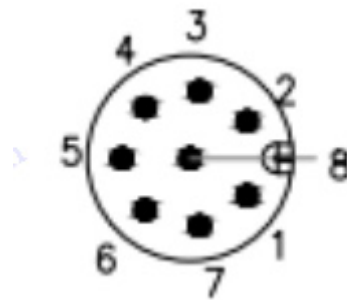

Figure 2 Schematic diagram of SMART antenna data interfaces
1. Connect the SMART antenna configuration cable to the SMART antenna. Figure 2 shows the SMART antenna data interfaces, and Table 2 describes the data interfaces.
HX-TS122 has two RS232 serial ports, namely, COM1 and COM2. The ports are on a 8-pin connector. For more information about the pin output of the connector, see Figure 2 and Table 2 in section 2.3.1. Connection serial ports: